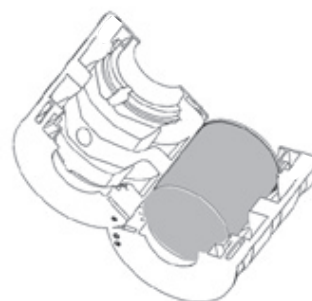

Figure 1
- **Gallon Cans:** Insert the can into the can holder. Slip the bail handle into the clip retainers (D).
- **Quart Cans:** Place the can inside the quart adapter, **6783756** (A). Set the quart can horizontally with the lid up. (See Figure 1)